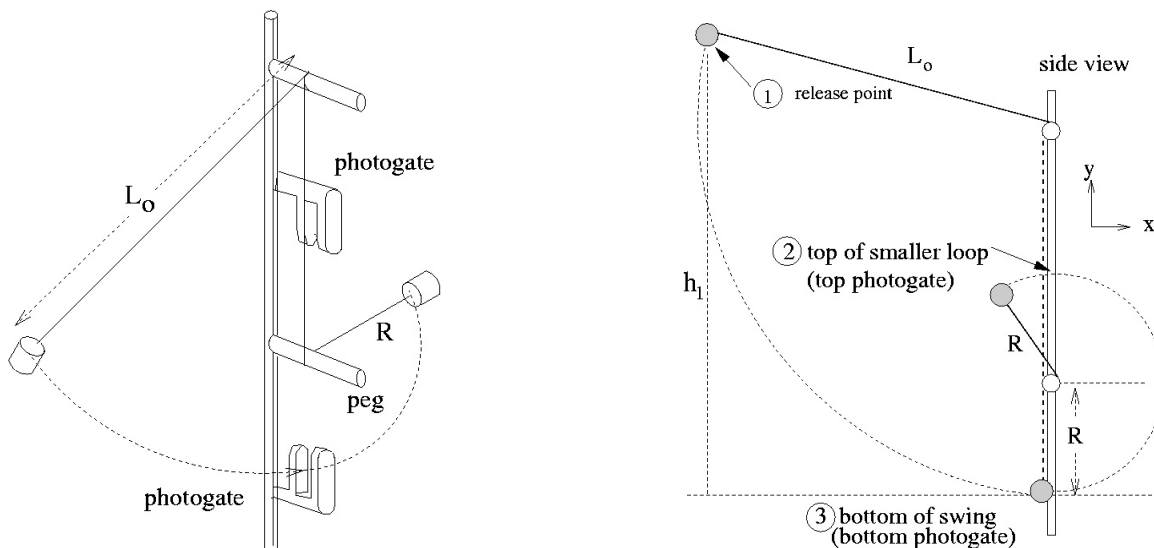

Figure 1: Basic configuration and parameters for peg and pendulum experimental setup.
Materials: *Peg and pendulum setup (Figure 1); two photogates with compatible interface and software; meterstick; triple beam balance; and Vernier caliper.*
The lab apparatus is shown in Figure 1. This lab will use concepts of conservation of mechanical energy and circular motion to predict the minimum height from which you can release the bob and have it pass around the smaller loop without any slack when at the top. You will then test your prediction by experiment.
These parameters are necessary for the theoretical calculations; see Figure 1 for clarification. Carefully measure and record:
2. Start with the bob at rest and determine the minimum height h_1 to release the bob so that it has just enough energy to go around the lower peg without any slack in the string as the bob passes through the top of the smaller loop (position 2 in Figure 1). Remember, this is an *experiment* – hone in on h_1 by trial until you and your partner agree on the best h_1 for this condition. [Suggestion: Start with an h_1 that is intentionally too low and systematically increase h_1 by ~ 2 cm until you find a position that is close to meeting the desired condition. Then make smaller changes to h_1 , as needed.]
3. Once you have decided on an appropriate starting height, release the bob from that position (h_1) then measure and record the time it takes for the bob to pass through each photogate. Repeat these measurements for a total of, at least, five (5) times per photogate. Average the results to yield a single time for each photogate.
1. *A diagram of the setup.* On this diagram, indicate where the relevant parameters are measured and record the values for each (e.g.: h_1 ; Length of string L_o ; Radius of small loop R ; bob diameter D ; bob mass M). This may be hand drawn. The right frame of Figure 1 is a good guide.